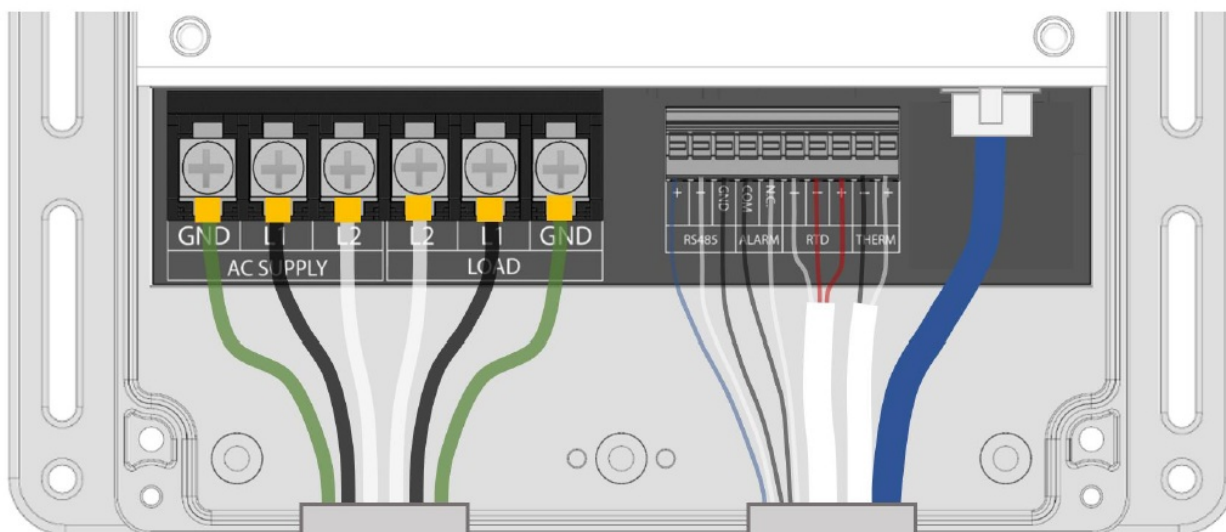

Figure 3: Top view of the Frio S1 controller with the wiring cover removed, showing all possible wiring connections.
2. Connect low voltage sensor and communications wires according to the image in Figure 3.
3. Connect heat trace leads to the LOAD side as shown in Figure 3. The ground sheath of the heat trace must be connected to the ground terminal on the controller.
4. Connect the power leads to the AC SUPPLY as shown in Figure 3. The ground connection on the controller must be properly connected to ground in accordance with local and national electrical codes.